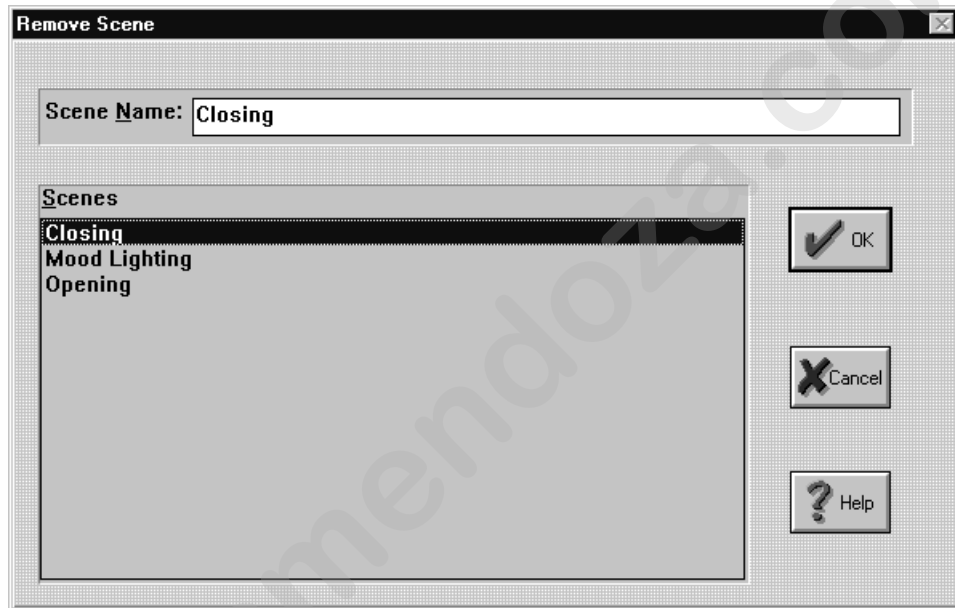

Figure 5.41. Remove Scene Dialogue Box
2. Select **Remove** from the **Memory** drop-down menu to bring up the **Remove Scene** dialogue box. Refer to Figure 5.41.